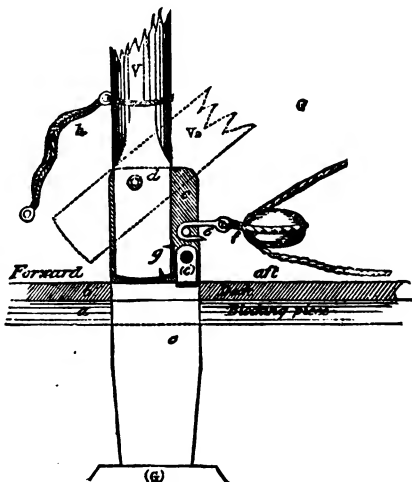

Fig. 104.
The tabernacle for lowering the mast may be fitted as follows (Fig. 104): Two pieces of oak, *c*, are secured at the heels by a block, (G), and pass up through a blocking piece, *a*, and through the deck, *b*. The heads of the oak pieces are each $3\frac{1}{4}$ in. high by $2\frac{1}{4}$ in. wide, fore and aft, and half an inch thick, the heels being tapered down.